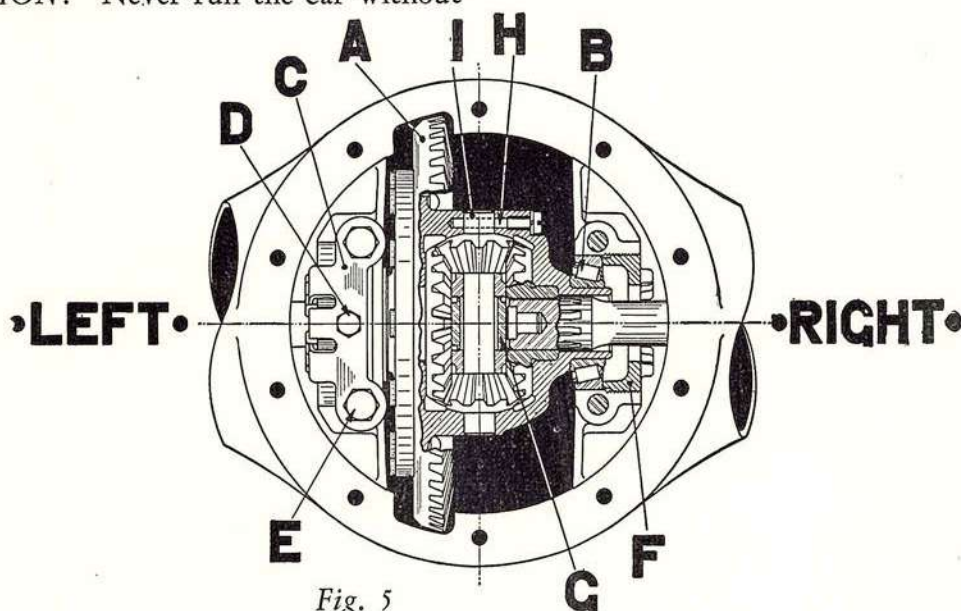

Fig. 5
The differential is of the two pinion type as shown in Figures 5 and 6. In this type the thrust is taken care of by two Timken taper roller bearings at outer ends of axle.
To remove differential gears, take out locking pin (H) and remove pin (I), as shown in Fig. 5. Gears are then removed by revolving the side gears.